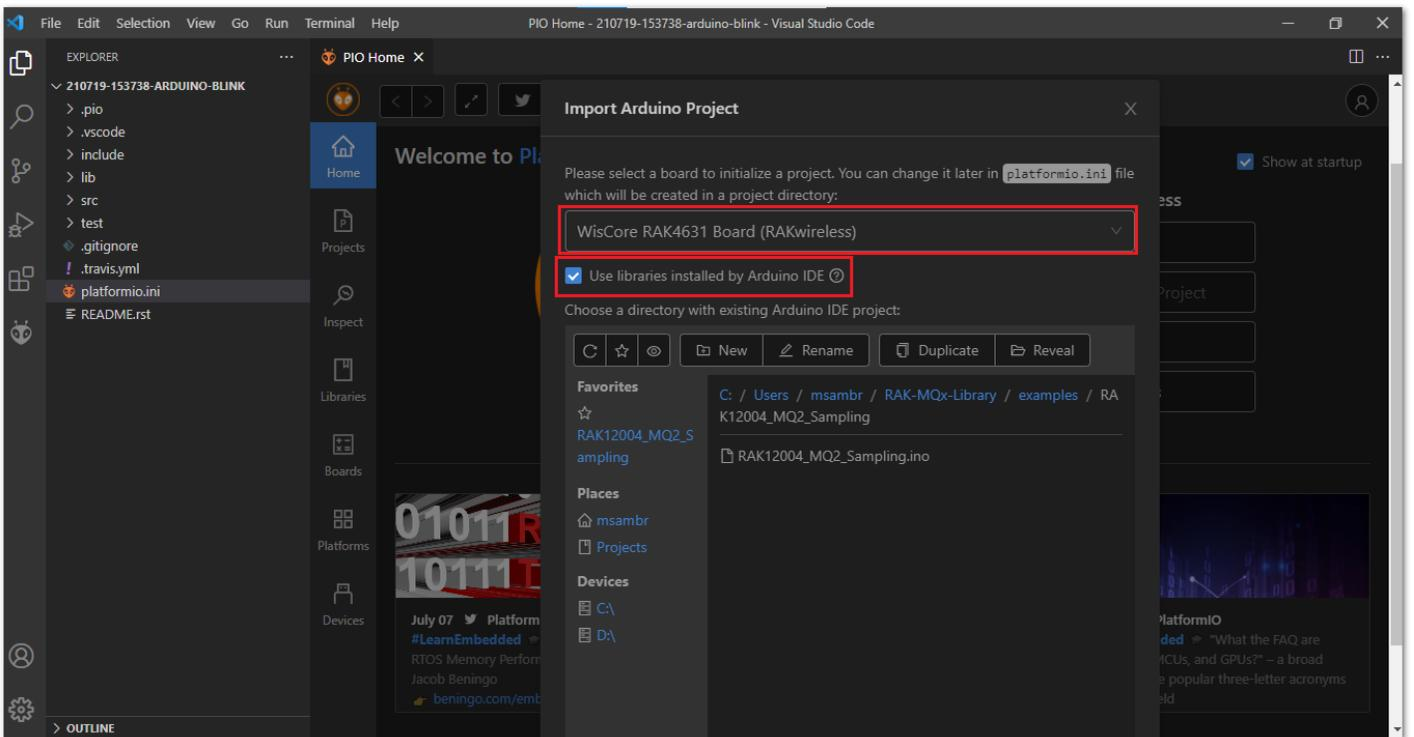

Figure 19: Select Board and check Import Libraries
13. Select your preferred **WisBlock Core** and check "Use Libraries installed by the Arduino IDE" option, as shown in Figure 19.